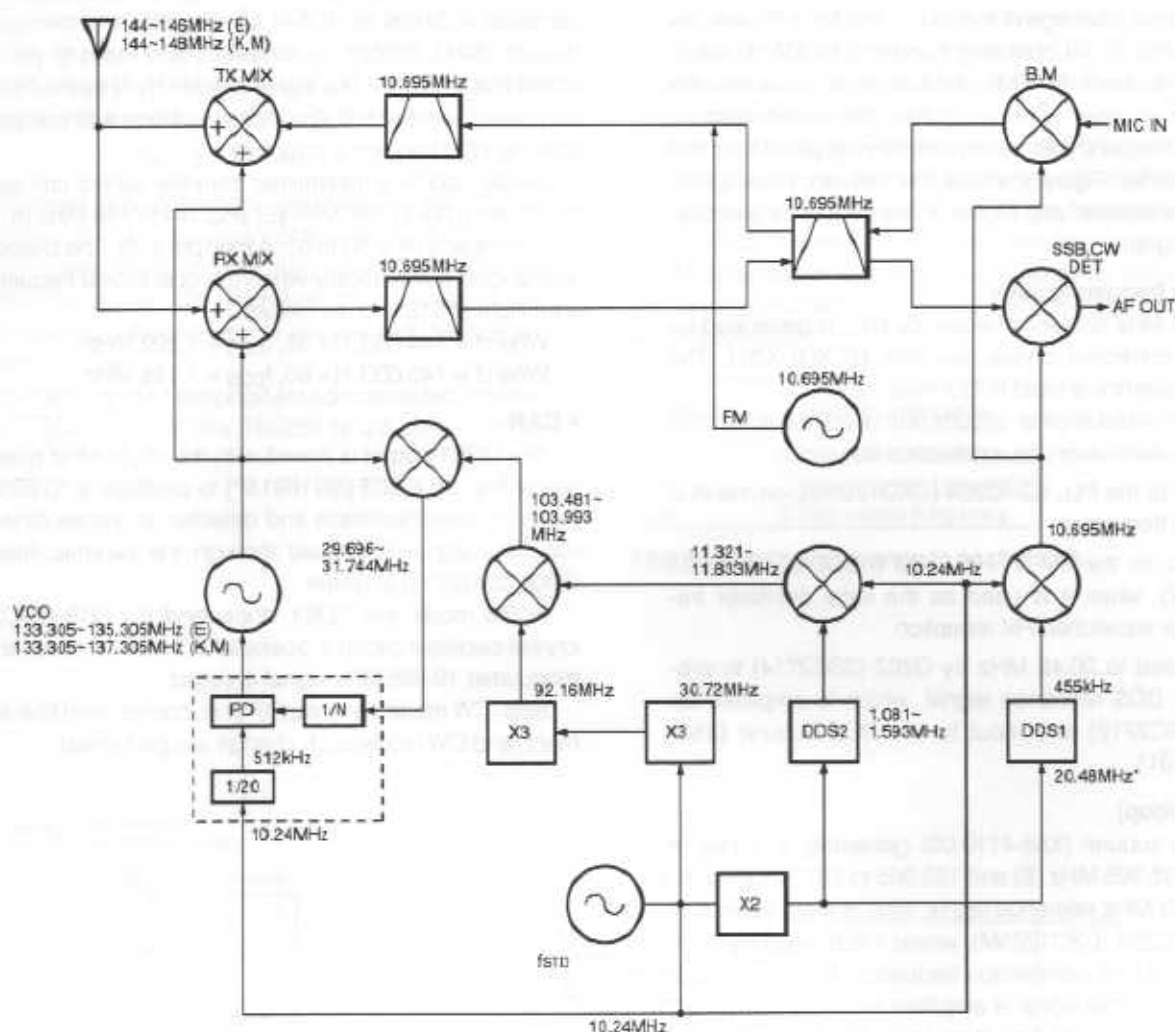

Fig. 2 Transceiver frequency configuration
PLL operation is based on a reference frequency of 10.24 MHz, and allows coverage of the 144 to 146 MHz (E) and the 144 to 148 MHz (K, M) operating band in 5 to 200 Hz steps (50 to 2000 Hz steps for FM), depending on how fast the through-type encoder is turned. When the encoder stops, the selected frequency will be an integral multiple of 5 Hz (50 Hz for FM mode). Figure 2 shows the frequency configuration of the transceiver, and Figure 3, the frequency processing block diagram.